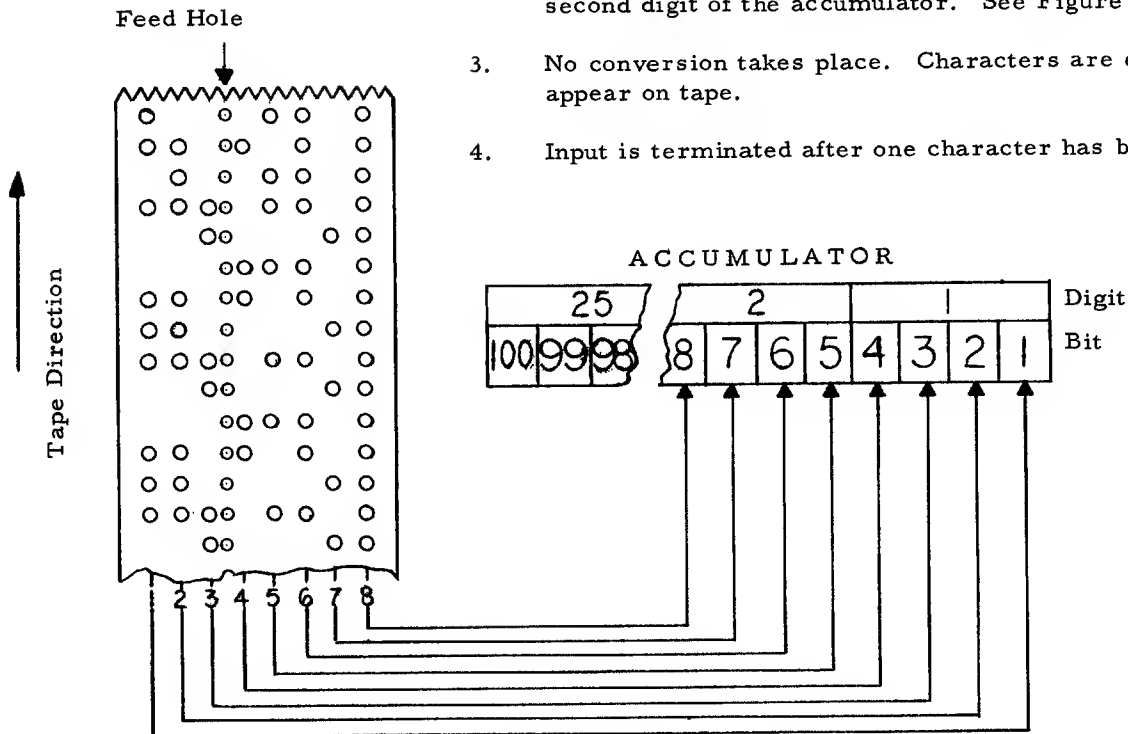

FIGURE 1.
2. An 8-level character is read from tape and placed in the two least significant digits of the accumulator. Tape level 1 occupies the least significant bit position of the accumulator and tape level 8 occupies the most significant bit position of the second digit of the accumulator. See Figure 1.